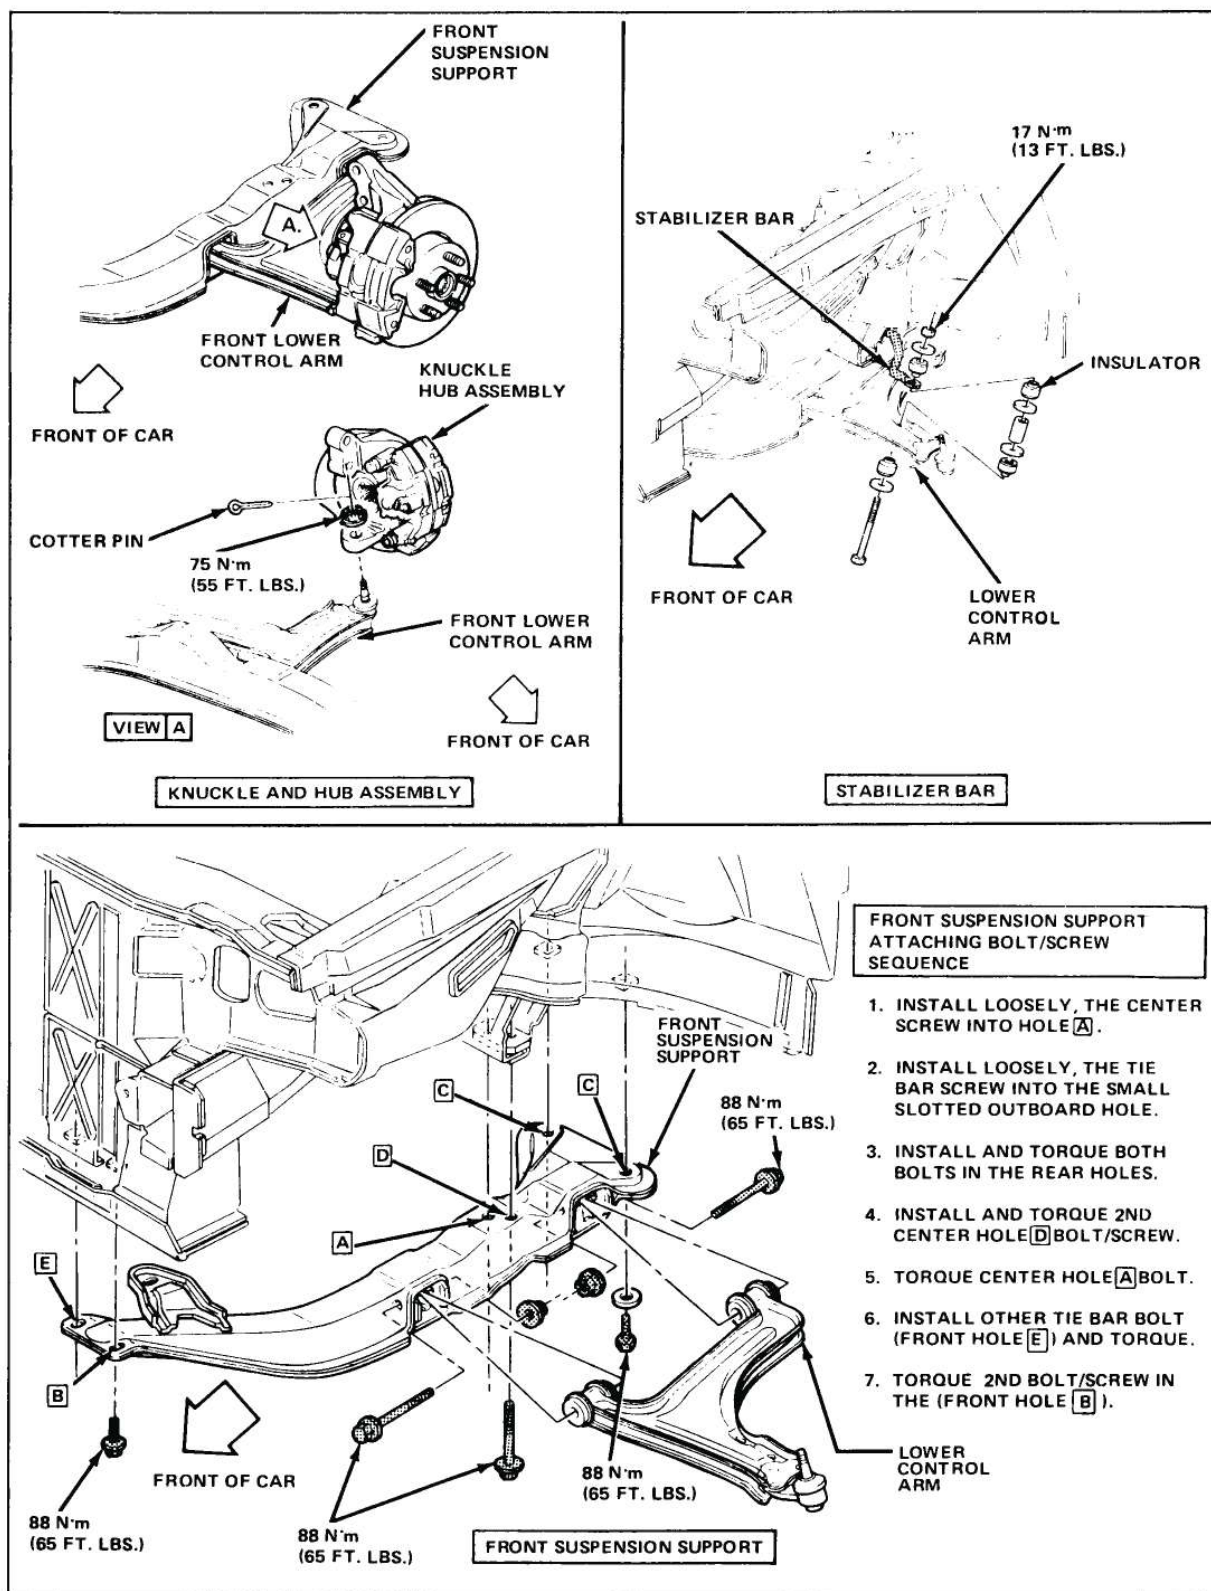

Figure 7A-21 Control Arm Attachings
3. Remove five screws securing lower left air deflector to body and remove deflector, Figure 7A-30.